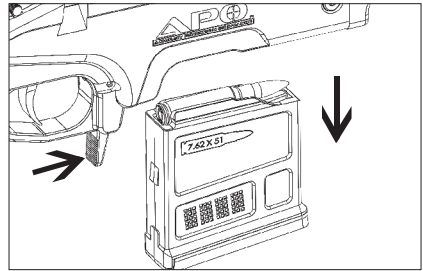

Figure 30 - Magazine Removal From Rifle
5. Grasp the detachable box magazine and remove it from the rifle. (Fig 30)